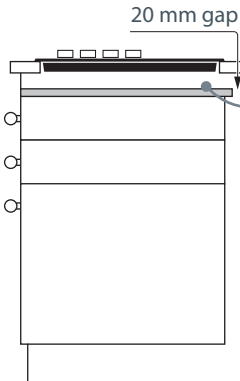

Fig. 7 Side sectional view
- A gap of 20 mm may be allowed at the rear of the barrier (see Fig.7) for electrical connection and ventilation.